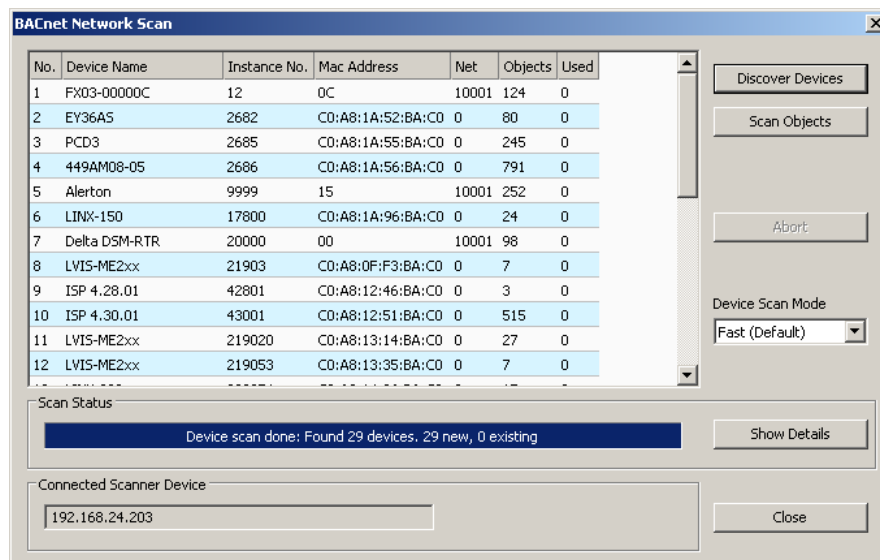

Figure 151: BACnet network scan dialog.
3. Right-click on that folder and select **Scan BACnet Network...** This opens the BACnet Network Scan dialog as shown in Figure 151.